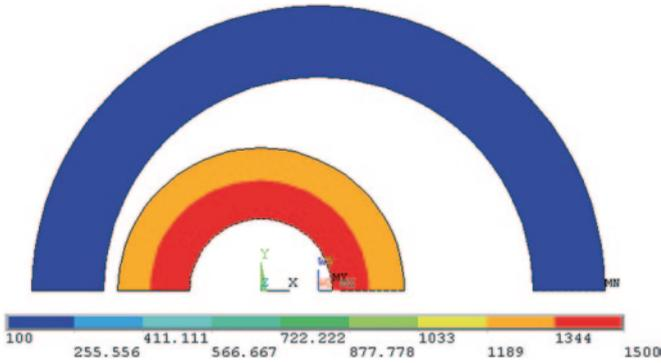

Fig. 9.68 Contour plot of temperature
- Temperature contours appear in the *Graphics Window*, as shown in Fig. 9.68.